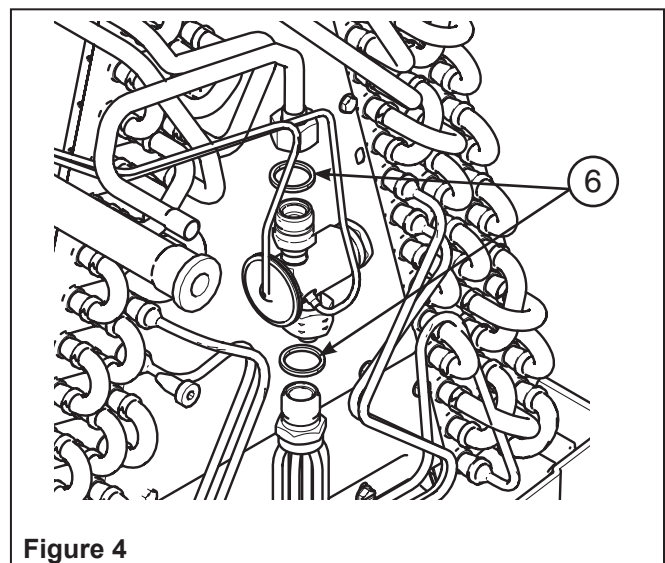

Figure 4
6. To install the TXV, install one new Teflon washer over the distributor fitting and the other new Teflon washer over the liquid line fitting (Figure 4). Hand-tighten the adapters to make sure proper mating of threads. Tighten until bodies "bottom" or a definite resistance is felt. Using a back-up wrench, tighten an additional 1/4 turn.